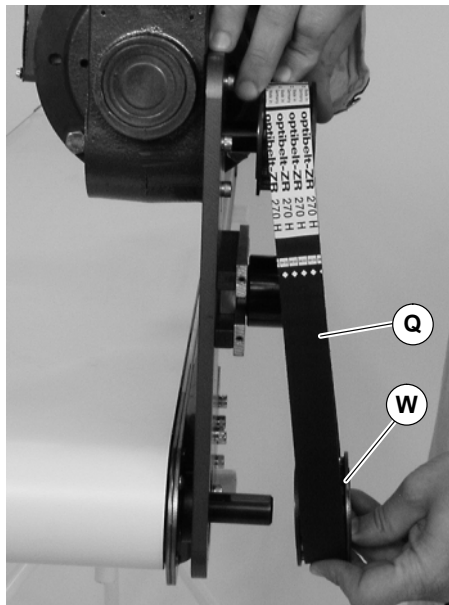

Figure 13
3. Remove timing belt (Q of Figure 13).
NOTE: If timing belt does not slide over pulley flange, loosen driven pulley taper-lock screws (W of Figure 13) and remove pulley with belt (Q). For re-installation, see steps 6 and 7 on beginning on page 6.